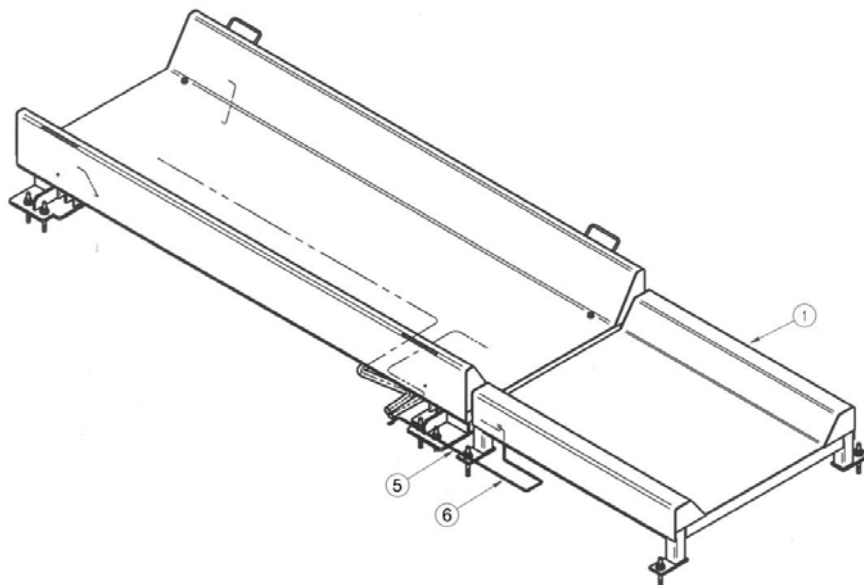

Figure 28: Weighing Platform Grounding
The Weighing Platform must be grounded as shown in Figure 28.
2. The Long Ground Wire (6) is the standard grounding of the platform to the construction.
3. If the Weigh Elevation Platform is included, attach the Short Ground Wire (5) as shown in Figure 28.